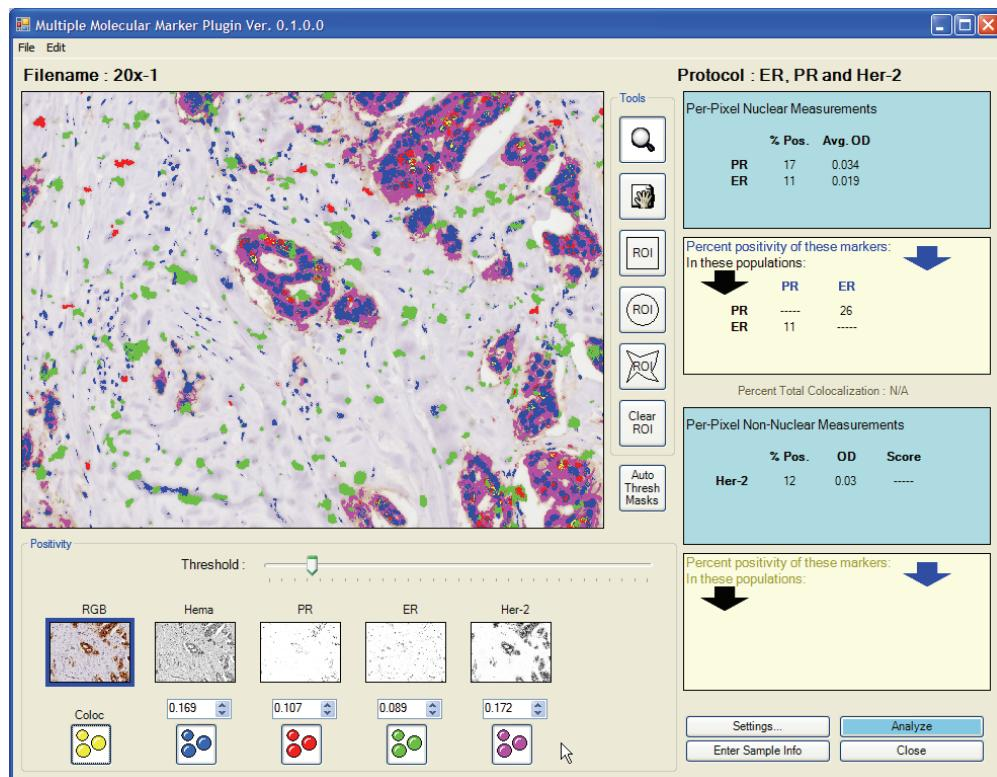

Figure 53. Processed Image Showing Percent of Colocalized Pixels
- In the **Per-Pixel Nuclear Measurements** box, the percentage (**% Pos.**) values next to each marker ID represent the percentage of pixels that contain that particular marker. As shown in Figure 53, the percentage of pixels that are PR positive is 17%, the percentage of pixels that are ER positive is 11%. The average optical density (**Avg. OD**) of each marker is also presented for reference purposes.
- The next box displays the percentage of each marker that is overlapped by the other marker(s). For example in Figure 53, the PR marker overlaps 11% of the ER marker population, while the ER marker overlaps 26% of the PR marker population.